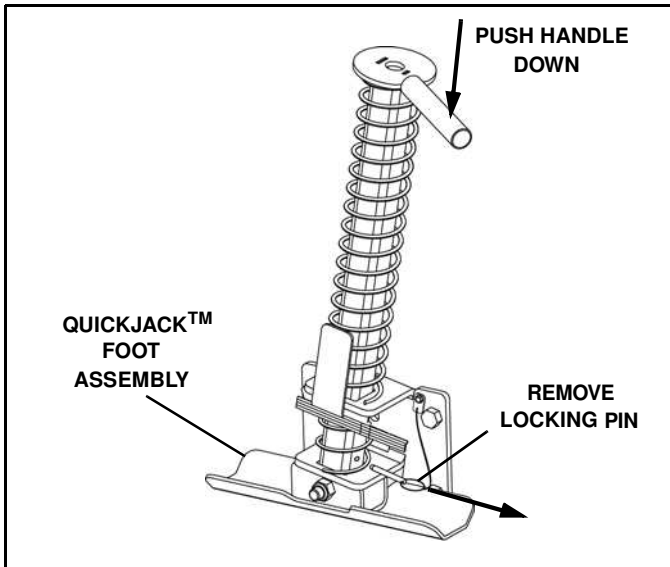

Figure 1-16
18. Raise the rear of the plow assembly, remove the QuickJack™ locking pin and push the handle down to fully lower the foot assembly. (See Figure 1-16).